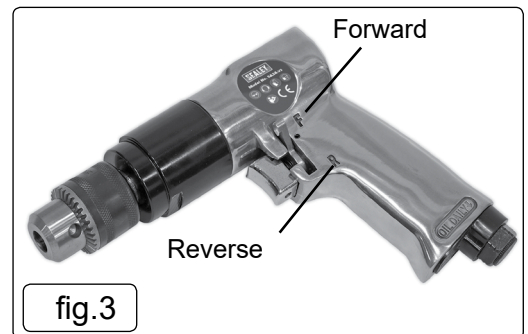

fig.3
- 5.2.2. For drilling purposes ensure the drill is turning in the forward direction by checking that the lever adjacent to the trigger is next to the forward symbol (F). If not, flip the lever over to the forward position (fig.3).